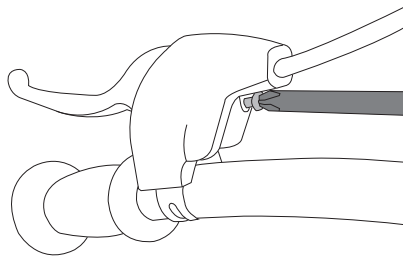

Figure 10
- To adjust the brake handle, use a Phillips head screwdriver to turn the screw clockwise to shorten the handles travel. Turn the screw counter clockwise to lengthen the handles travel. See Figure 10.